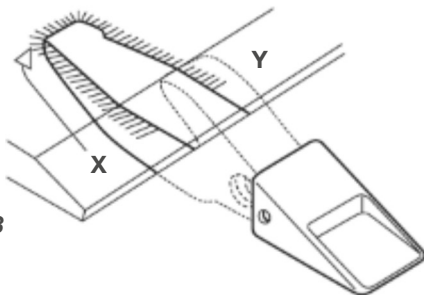

Figure 3
4. Weld the lower part of the strap starting with a string of 100mm from the border of the lip (Area B, Fig 3), welding around it until reaching the same point on the opposite side.
8. Repeat the process until reaching the welding thickness indicated in the table (Fig 6) for Area A (Fig 3).